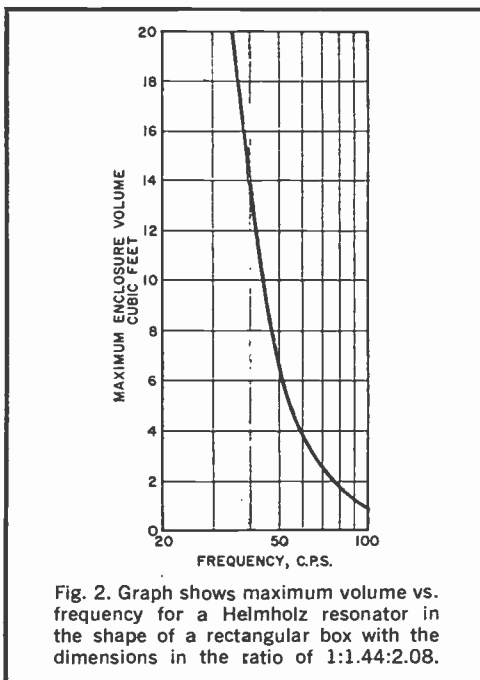
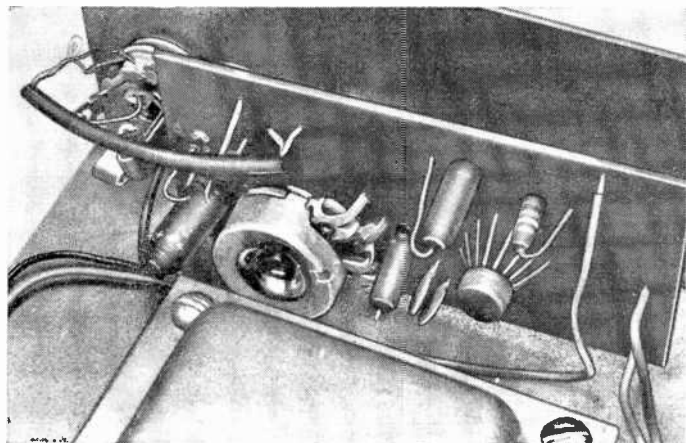
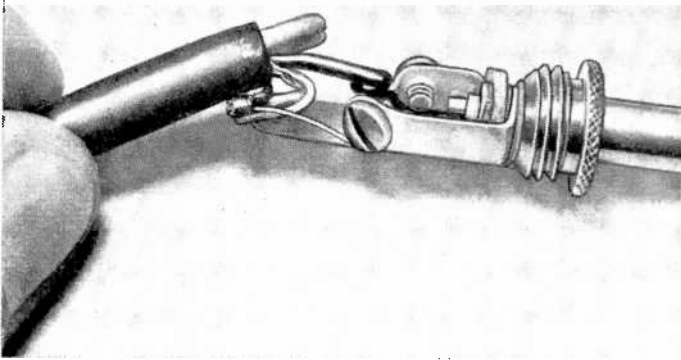

Fig. 2. Graph shows maximum volume vs. frequency for a Helmholtz resonator in the shape of a rectangular box with the dimensions in the ratio of 1:1.44:2.08.
Fig. 3. Circuit board mounts to front of case via long threaded shaft of volume control. Use shielded cable to connect input jack to circuit board as shown.
Fig. 5. When connecting plug to microphone cable, use only two shorter contacts. Do NOT allow cables to touch long one.
dimensions. For example, John Gilliom at Electro-Voice states that the optimum dimension ratio is 1: 1.44: 2.08 (see Fig. 2). In other words, a typical bookshelf enclosure might have an inside depth of 1 ft., an inside height of 1.44 ft. (about 17¼"), and a length of 2.08 ft. (about 25"). Or the 5 cu ft "universal" enclosure shown in Fig. 3 would have approximate inside dimensions as follows: A 30"; B 21"; C 14½".
**Construction.** The circuit of the timer is shown in Fig. 1. It is assembled in a 5" × 4" × 3" aluminum cabinet using the front-panel layout shown in Fig. 2. Figures 3 and 4 show the internal arrangement. Power transformer *T1* and relay *K1* occupy the bottom of the cabinet while the power supply is built on a perforated (or etched) board supported by the transformer mounting hardware. Most of the other electronic components
are assembled on a printed circuit board as shown in Fig. 3. A foil pattern for this board is shown in Fig. 5. Use a glass-epoxy board to avoid leakage and possible mistiming due to moisture. This board is mounted on the top of the cabinet using appropriate spacers.
Fig. 3. The PC board containing the timing circuit is mounted on brackets to the top of the chassis. The power supply is mounted on its own board fastened to the top of the power transformer. Note that the relay frame is insulated from the metal chassis by a small piece of plastic sheet. In many relays, the armature is connected to the main frame.
Now mount the power switch (if it is not part of *R1*), fuse holder, and circuit board on the front of the case as shown in Fig. 3. Use two hex nuts and a control lockwasher to secure the extra-long threaded bushing of the potentiometer in place so that it protrudes from the front
Disassemble the two-circuit phono plug that will be connected to the microphone cable. So that you do not make a mistake when connecting the cable, remove and discard the screw on the longest contact lug (there will be no connection made to this lug), and connect the conductors from the microphone cable to the two remaining lugs as shown in Fig. 5. This might appear to be an unconventional hookup, considering that the usual "common" contact is not being used. But this connection must be made exactly as described to prevent damaging the IC when power is applied and a microphone is plugged into *J1*.